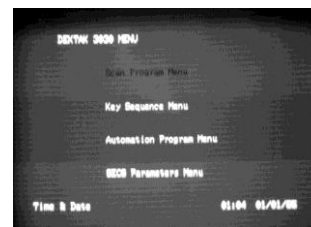

Fig 7
2. Press [PRGM] to display Scan Parameter screen. [Fig 7]
6. Use [UP] or [DOWN] to highlight Speed. [Fig 7]
12. Press [UP] or [DOWN] to highlight Measurement Range. [Fig 7]
15. Note: All parameters [Fig 7] and values are active as displayed.